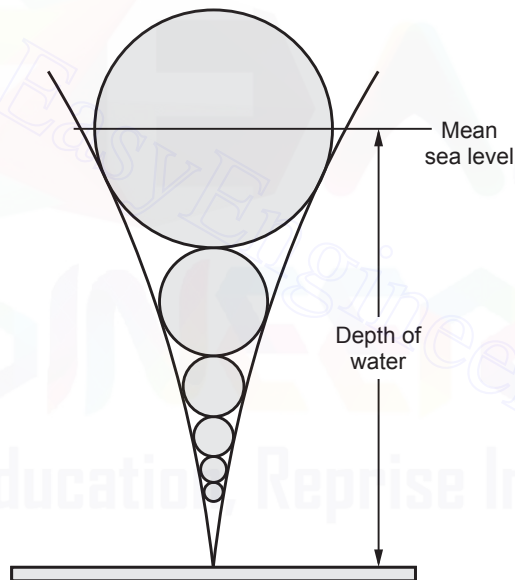

Fig. 5.2.2 Particle motion in water waves
- Viewing the vertical cross-section of the water column, the radius of circular motion of water particles continues to decrease with depth and becomes zero at sea bed as shown in Fig. 5.2.2